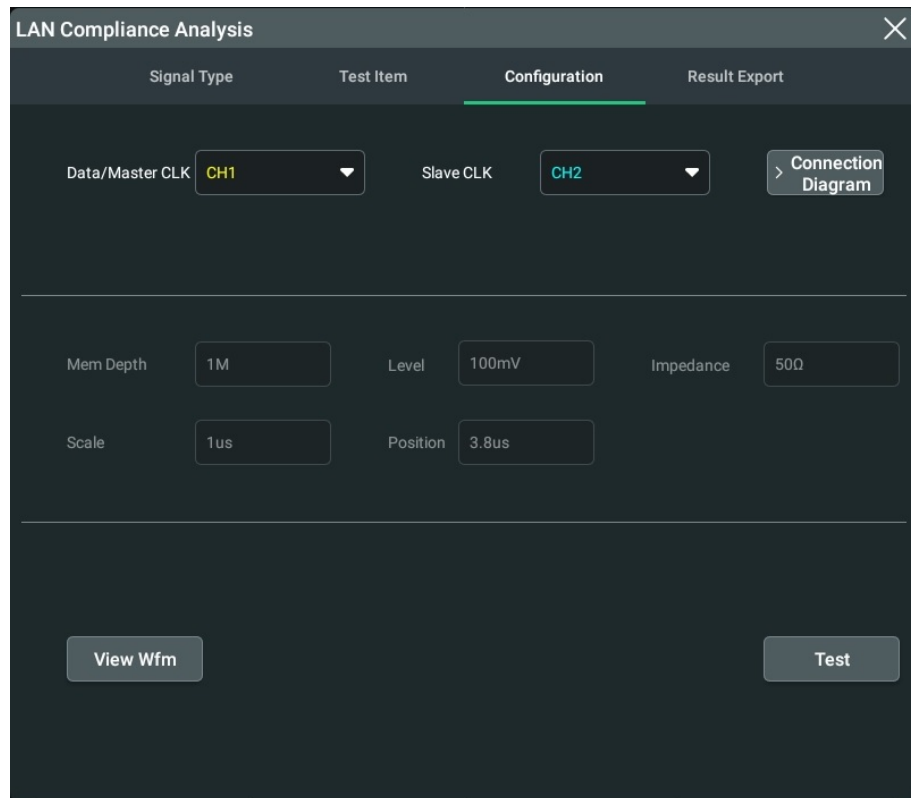

Figure 4.32 Test Configuration
4. After the specified signal type and test item are selected, the oscilloscope outputs a waveform based on the automatically set parameters such as level, scale, and impedance. Click or tap the **Configuration** tab to enter the "Configuration" menu. In this menu, you can view the parameters, as shown in *Figure 4.32*.